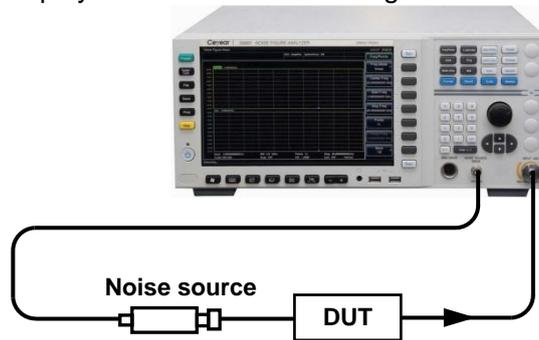
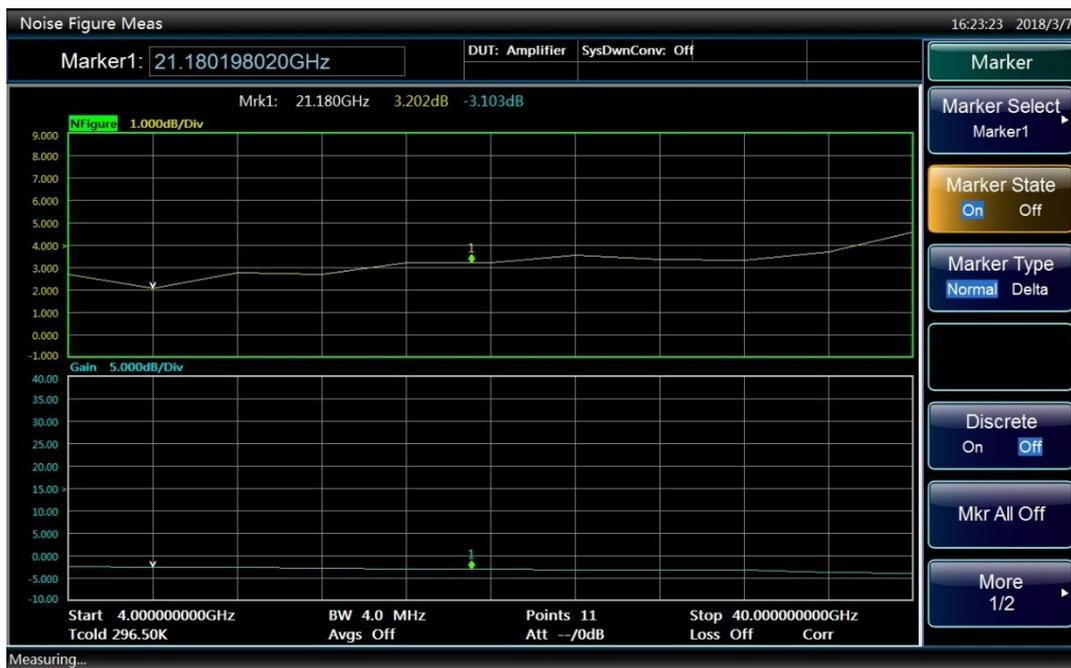

Figure 4.12 Connect DUT for Measurement
Figure 4.13 Graph Display of Measurement Results
Step 3. Connect the noise source output to the DUT input as shown in Figure 4.12. After the connection is completed, the measurement result will be displayed on the display screen of the noise figure analyzer. The graph display result is as shown in Fig.4.13.
The results shown in Figure. 4.13 and Figure. 4.14 show that the noise figure of the DUT is about 3.0dB, and the gain -3dB, which meets the specifications in Table 4.1.